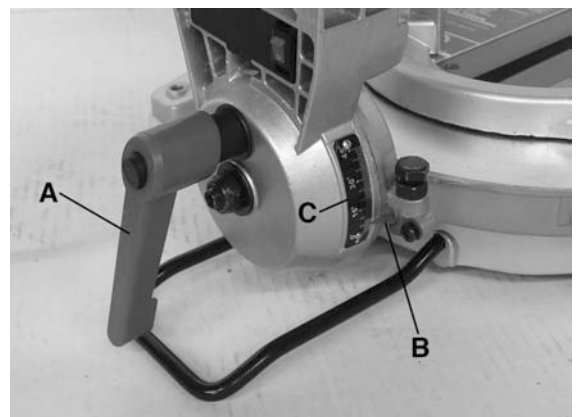

FIGURE 10
Loosen bevel cutting lock knob (A) Fig.10, tilt cutting arm to the desired bevel angle and retighten lock knob (A). **WARNING: LOCK KNOB (A) MUST BE TIGHTENED DURING ALL CUTTING OPERATIONS.**
The bevel angle of the cutting arm is determined by the position of the pointer (B) Fig.10, on the scale (C).